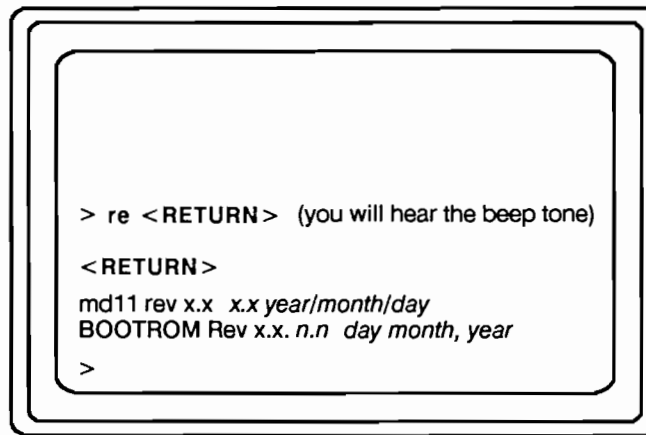

Figure 8-28. Resetting the MD on Your Workstation
1. Go to the system from which you are dumping memory. Reset the MD as shown in Figure 8-28. The system displays the revision date of the CPU PROM.